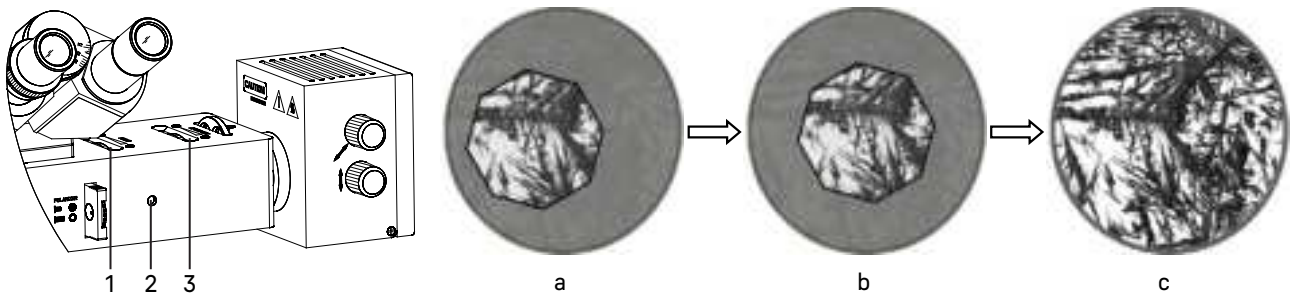

Fig. 10. Setting up Köhler illumination
2. Open the aperture diaphragm 3 and close the field diaphragm 1. A light spot will be visible in the field of view, as shown in Fig. 10.